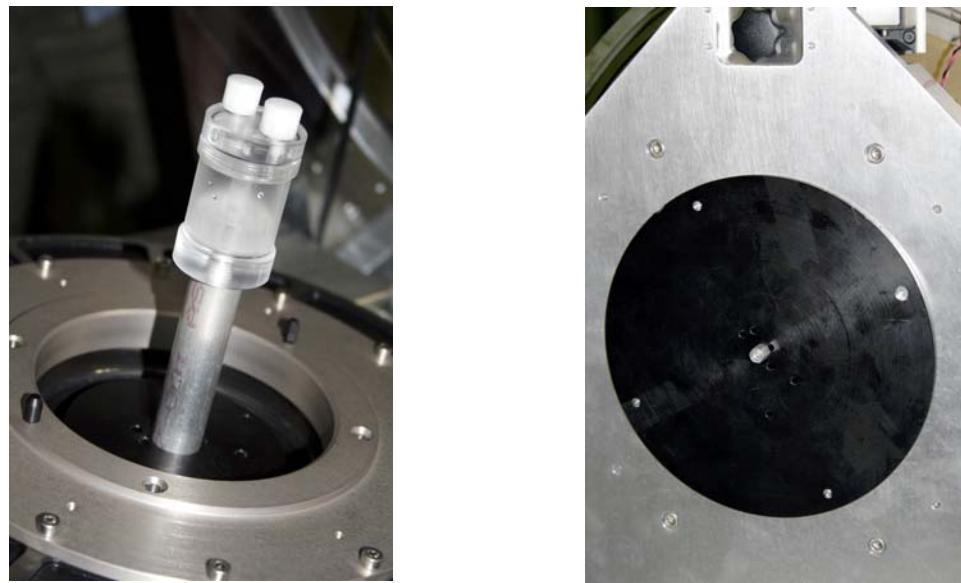

Figure 7-53
- 1.) Thread the Ultra-Micro Hot Spot Phantom to the special jig and mount the jig to the collimator mounting plate (Figure 7-53). Ensure the resolution insert is removed, if possible, and fill the phantom with a customer-supplied liquid isotope (Tc-99). If the customer cannot supply Tc-99, ensure that an Ultra-Micro Hot Spot Phantom prefilled with Co-57 is provided.
The same Preparation for Uniformity Correction and Uniformity Correction Procedure (page 267) are used for resolution verification, with the exception that the resolution insert must be installed in the phantom for the Tc-99 isotope. If the customer cannot provide Tc-99, ensure than an Ultra-Micro Hot Spot Phantom with resolution insert, prefilled with Co-57, is provided. This is shown in Figure 7-53.